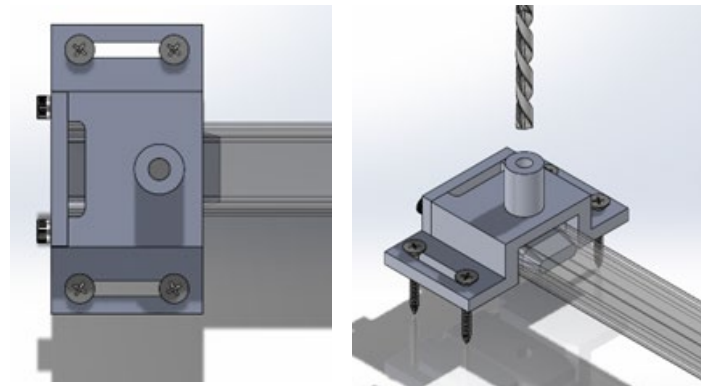

Figure 3.
Step 3. Insert one end of the Chain Shield into the hole drilling jig until it is flush and square against the back plate of the jig (this can be checked by looking through the slot on the top of the jig, see **Figure 3**). Use a 1/4" drill bit that is at least 1 3/4" long to bore completely through the Chain Shield. Remove the Shield from the Jig and clear away any loose or hanging burrs. Repeat **Step 3** for the other end of the Chain Safety Shield.